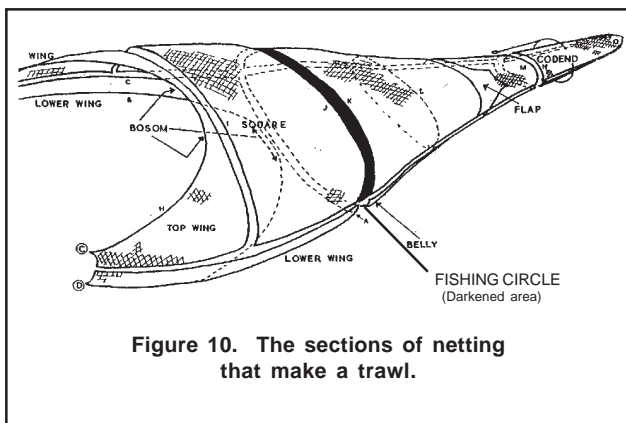

Figure 10. The sections of netting that make a trawl.
33. NUMBER OF MESHES: Record the number of meshes in the fishing circle. This information may be obtained from the Captain. Do not include the meshes in the gore. See the definition of fishing circle in the introduction and Figure 10.
34. FISHING CIRCLE MESH SIZE: Record, in whole inches, the largest mesh measurement (inside knot to knot) from the fishing circle. This information may be obtained from the Captain. See the definition of fishing circle in the introduction and Figure 10.
NOTE: See Figure 10 for the location of the codend, and Figure 2 in the Otter Trawl Gear Characteristics Log Instructions for an illustration of diamond and square hanging configurations.
- 04 = Guiding Device, *i.e.* a funnel or "flap" (see Figure 10 and 11).